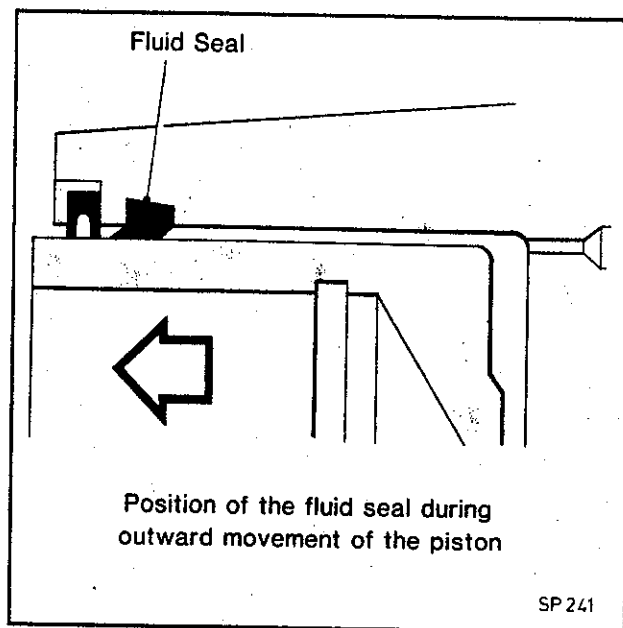
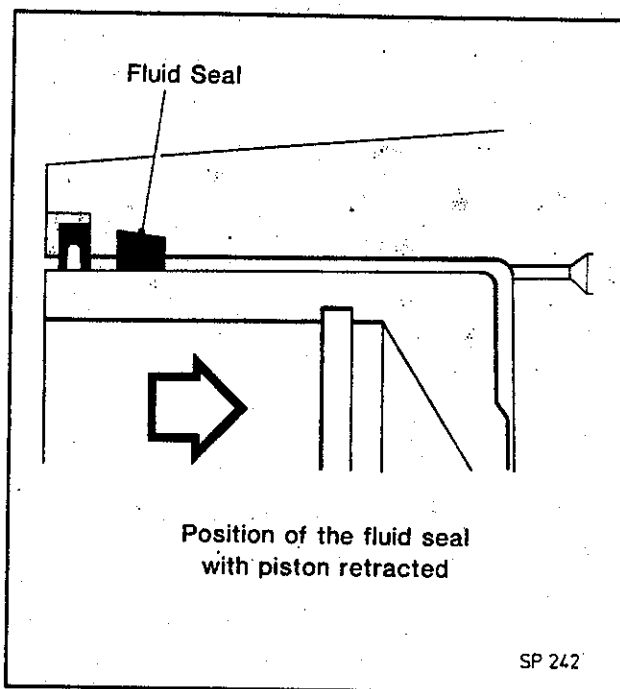

Fig. 1
Fig. 2
When the piston is fitted the seal is compressed to the groove shape, as shown in figure 2. The friction pads are composed of steel backing plates to which the friction material is integrally moulded and bonded.
When the brake pedal is depressed hydraulic pressure passes via the brake pipes to the brake hoses and enters the caliper piston housing (3), then through an internal drilling to the other cylinder bore. Hydraulic pressure causes the pistons (4) to move against the inner friction pad (8) which in turn reacts with the brake disc (23). When sufficient force occurs the piston housing/bridge moves away from the disc and the bridge fingers apply a load to the outer friction pad which then reacts against the brake disc, thus causing the clamping action of both friction pads to the brake disc. As the pistons move out, the fluid seals flex as shown in figure 1. When the brake pedal is released, the pressure drops to zero, the seals adopt their original shape and retract the pistons, figure 2. Friction pad wear is compensated automatically with re-positioning of the bridge on the slide pins, and "follow up" travel on the pistons.
Coat the new fluid seal with Lockheed Universal brake fluid and ease the seal into the groove in the bore using fingers only, ensuring that it is correctly seated into the groove. The fluid seal groove and the seal are not the same in section, thus when bedded, the seal feels proud to the touch at edge furthest away from the mouth of the bore. (see Fig. 2).